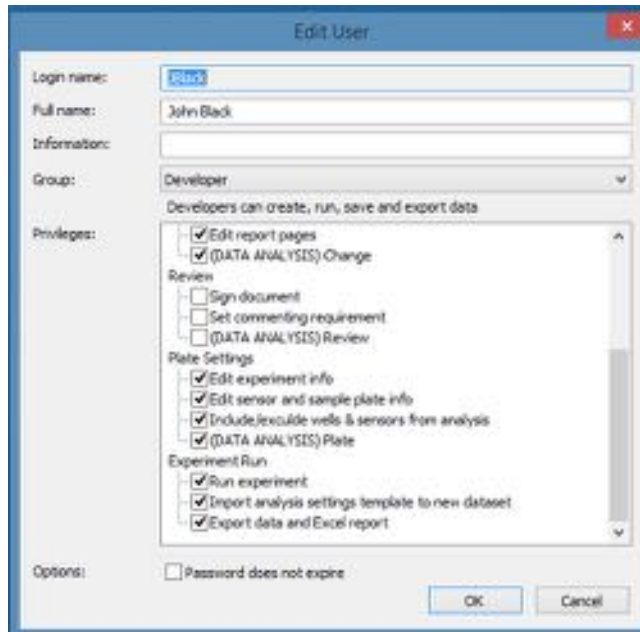

Figure 4-59: Edit User Dialog Box
3. If needed, make changes to privileges by selecting/deselecting check boxes (Figure 4-59).